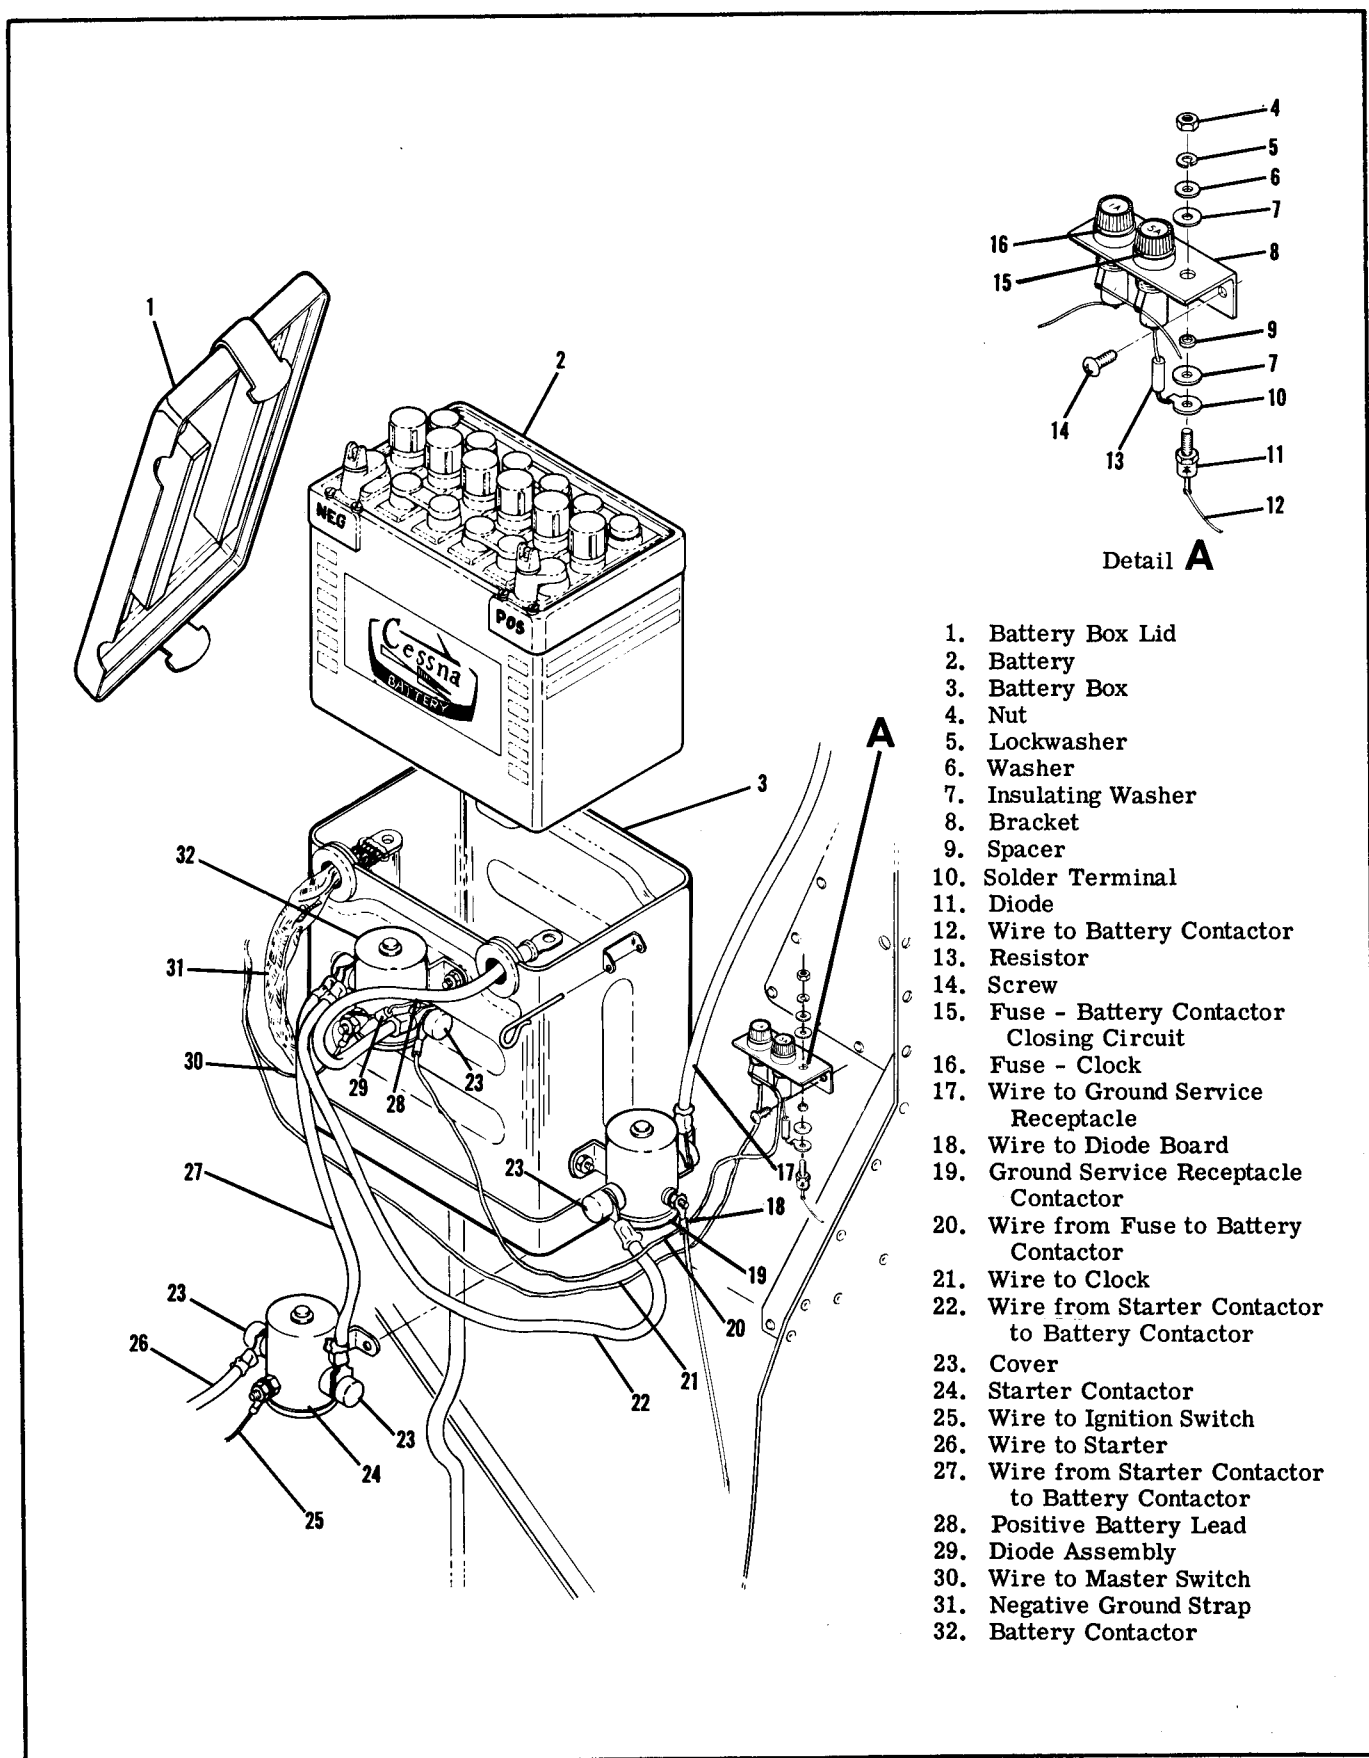

Figure 16-1. Battery and Electrical Equipment Installations
16-15. REMOVAL AND INSTALLATION. (Refer to figure 16-1.)
**16-22. REMOVAL AND INSTALLATION.** (Refer to figure 16-1.) The battery box is riveted to mounting brackets on the firewall. The rivets must be drilled out to remove the box. When a battery box is installed and riveted into place, all rivets and scratches inside the box should be painted with acidproof lacquer Part No. CES1054-381, available from the Cessna Service Parts Center.
**16-26. REMOVAL AND INSTALLATION.** (Refer to figure 16-1.)